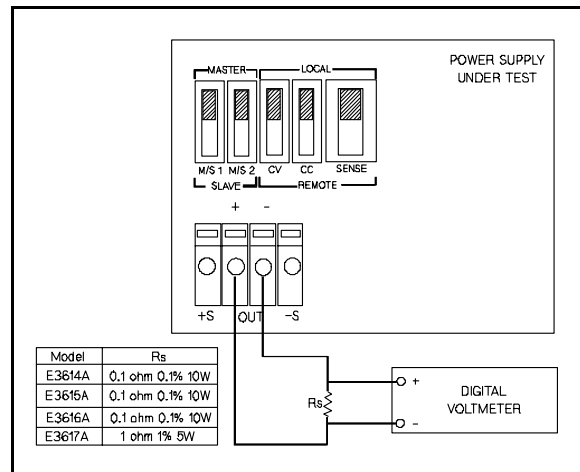

Figure A-9. Calibration Test Setup
- Connect test setup on Figure A-9.
- Disconnect Rs from test setup on Figure A-9 and connect DVM across output terminal of the supply.